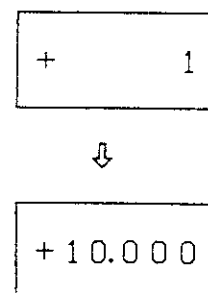

Fig. 23
4. Press the RECALL switch. At this point, 10V range, limiter setting 12, output value +10.000, and output ON will be set on the instrument. As shown in Fig. 23, for 0.5 seconds the display will indicate address 1, after which it will read +10.000.